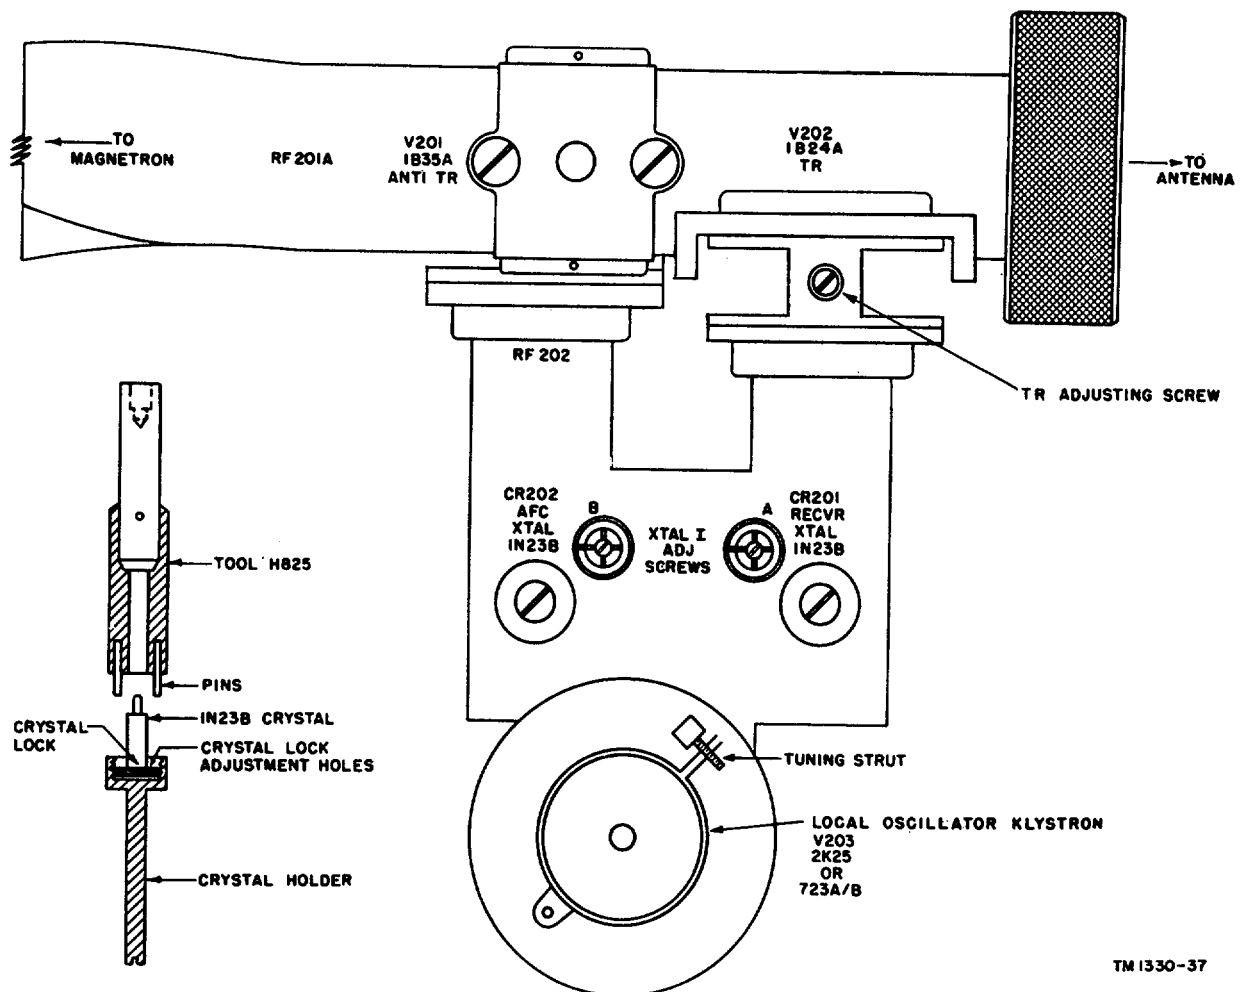

Figure 54. Mixer, duplexer, and LO tuning adjustments.
- (8) Adjust the FOCUS control to obtain the smallest and sharpest spot possible.
- (9) Adjust the HORIZONTAL and VERTICAL POSITION CONTROLS to place the spot in the lower left portion of the scope screen.
- (10) Turn the FINE SWEEP SPEED control clockwise until the sweep line extends across the screen.
- (11) Stop the antenna in the direction of targets by means of the ANT. MOTOR ON-OFF switch on the receiver-transmitter.
- (12) Advance the receiver GAIN control (on the indicator primary control panel) to obtain noise on the test scope.
- (13) Set the receiver A.F.C. OPER.-MANUAL TUNING switch to MANUAL TUNING.
- (14) Turn both XTAL I ADJ SCREWS A and B (fig. 54) approximately 4 complete turns from their fully clockwise positions. (This step is required only for *initial* adjustments; after that, readjustments can be made as required.)
- (15) Turn the LO klystron tuning strut to its completely closed (counterclockwise position, using the klystron tool on the receiver chassis. (This adjustment is required only for initial adjustments.)
- (16) *Slowly* open the tuning strut and simultaneously adjust the REFLECTOR TUNING control so that the CRYSTAL CURRENT meter indicates crystal current for both positions of the A.F.C. XTAL I-SIGNAL XTAL I PUSH switch.
Note. As the klystron tuning strut is adjusted, the REFLECTOR TUNING control must be readjusted continually to keep the klystron oscillating, as indicated by signal crystal current (A.F.C. XTAL I-SIGNAL XTAL I PUSH switch depressed.) The crystal currents must not exceed .75 ma (milli-ampere). If either crystal current becomes excessive, adjust the corresponding XTAL I ADJ SCREW, A or B (fig. 54), as required to reduce the current to approximately .70 ma.
- (17) While slowly opening the tuning strut ((16) above), watch for the *first* signals to appear on the test scope.
- (18) Adjust the SYNC VOLTAGE control of the test scope to obtain a steady picture of targets on the test scope.
- (19) Readjust the test scope FOCUS, BRIGHTNESS, and IMAGE SIZE controls to obtain a test signal of the required sharpness, intensity, and size. (A 1/2-inch image is satisfactory.)
- (20) Tune the TR adjustment (fig. 54) for maximum amplitude of the test image on the test scope.
- (21) Adjust the REFLECTOR TUNING control for peak crystal current with the A.F.C. XTAL I-SIGNAL XTAL I PUSH switch depressed. As peak crystal current is approached, the signals probably will decrease and may even disappear.
- (22) Carefully readjust the klystron tuning strut for maximum signals.
- (23) Repeat the procedures in (21) and (22) above until maximum signals and peak signal crystal current are obtained together. Note the crystal current.
- (24) Check the afc crystal current reading, and adjust XTAL I ADJ SCREWS B to obtain a meter reading between .4 and .5 ma. *Do not touch any other control.*
- (25) Push the A.F.C. XTAL I-SIGNAL XTAL I PUSH switch and check the signal crystal current. If the reading is lower than that noted in (23) above, readjust XTAL ADJ I SCREW A to increase the rating to its previously noted value (between .4 and .5 ma).
- (26) Make the following checks to determine that the LO is operating on a frequency 30 mc above the magnetron frequency.
- (1) Place the radar set in operation.
- (2) Stop the antenna rotation with the antenna pointed at targets.
- (3) Advance the receiver GAIN control (on the indicator primary control panel) to the point at which noise appears on the PPI scope.
- (4) Adjust the REFLECTOR TUNING control so that the LO oscillates, and adjust the XTAL I ADJ SCREWS A and B (fig. 54), so that the CRYSTAL CURRENT meter readings are the same (about .5 ma) for both positions of the A.F.C. XTAL I-SIGNAL XTAL I PUSH switch.
- (5) Throw the A.F.C. OPER.-MANUAL TUNING switch to A.F.C. OPER. (Assuming that the LO is tuned improperly, the crystal current will rise and fall periodically.)
- (6) Close the klystron tuning strut and then *slowly* open it. As the strut is opened, the crystal current will rise and fall.
- (7) If there is no crystal current when the strut is closed, continue to open the strut slowly while rotating the REFLECTOR TUNING control back and forth. At some setting of the tuning strut a steady crystal current will be obtained. This indicates that the afc has locked in, *but not necessarily on the peak of the klystron operating mode.*
- (8) Throw the A.F.C. OPER.-MANUAL TUNING switch to MANUAL TUNING and adjust the reflector tuning control for peak crystal current. Note the current amplitude.
- (9) Now set the A.F.C. OPER.-MANUAL TUNING switch to its A.F.C. OPER. position. The crystal current should remain unchanged. If the crystal current changes, readjust the klystron tuning strut slightly to obtain the same current as that obtained in (8) above.
- (10) Repeat the procedures in (8) and (9) above until there is no change in crystal current as the A.F.C. OPER.-MANUAL TUNING switch is alternately switched from one position to the other.